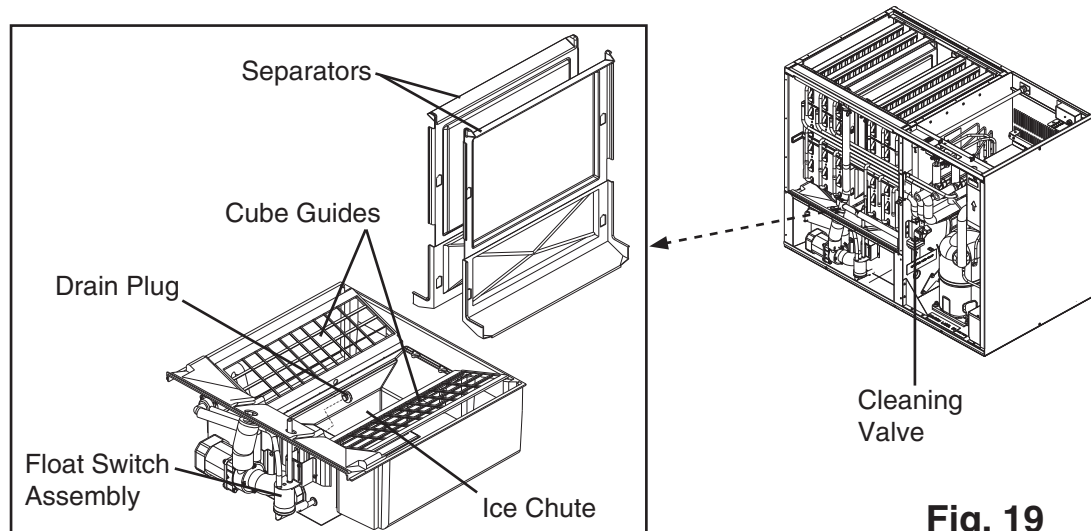

Fig. 19
- 4) Have the shipping carton, tape, and packing material been removed from the icemaker? Are the cube guides in their correct positions? Are the separators between the evaporator banks properly attached to their holding clips? See Fig. 19.
- 7) Remove the insulation panel. Remove the drain plug located on the lower front part of the ice chute. See Fig. 19. Allow the water tank to drain.
- 5) Remove the drain plug located on the lower front part of the ice chute. See Fig. 19. Allow the water tank to drain.